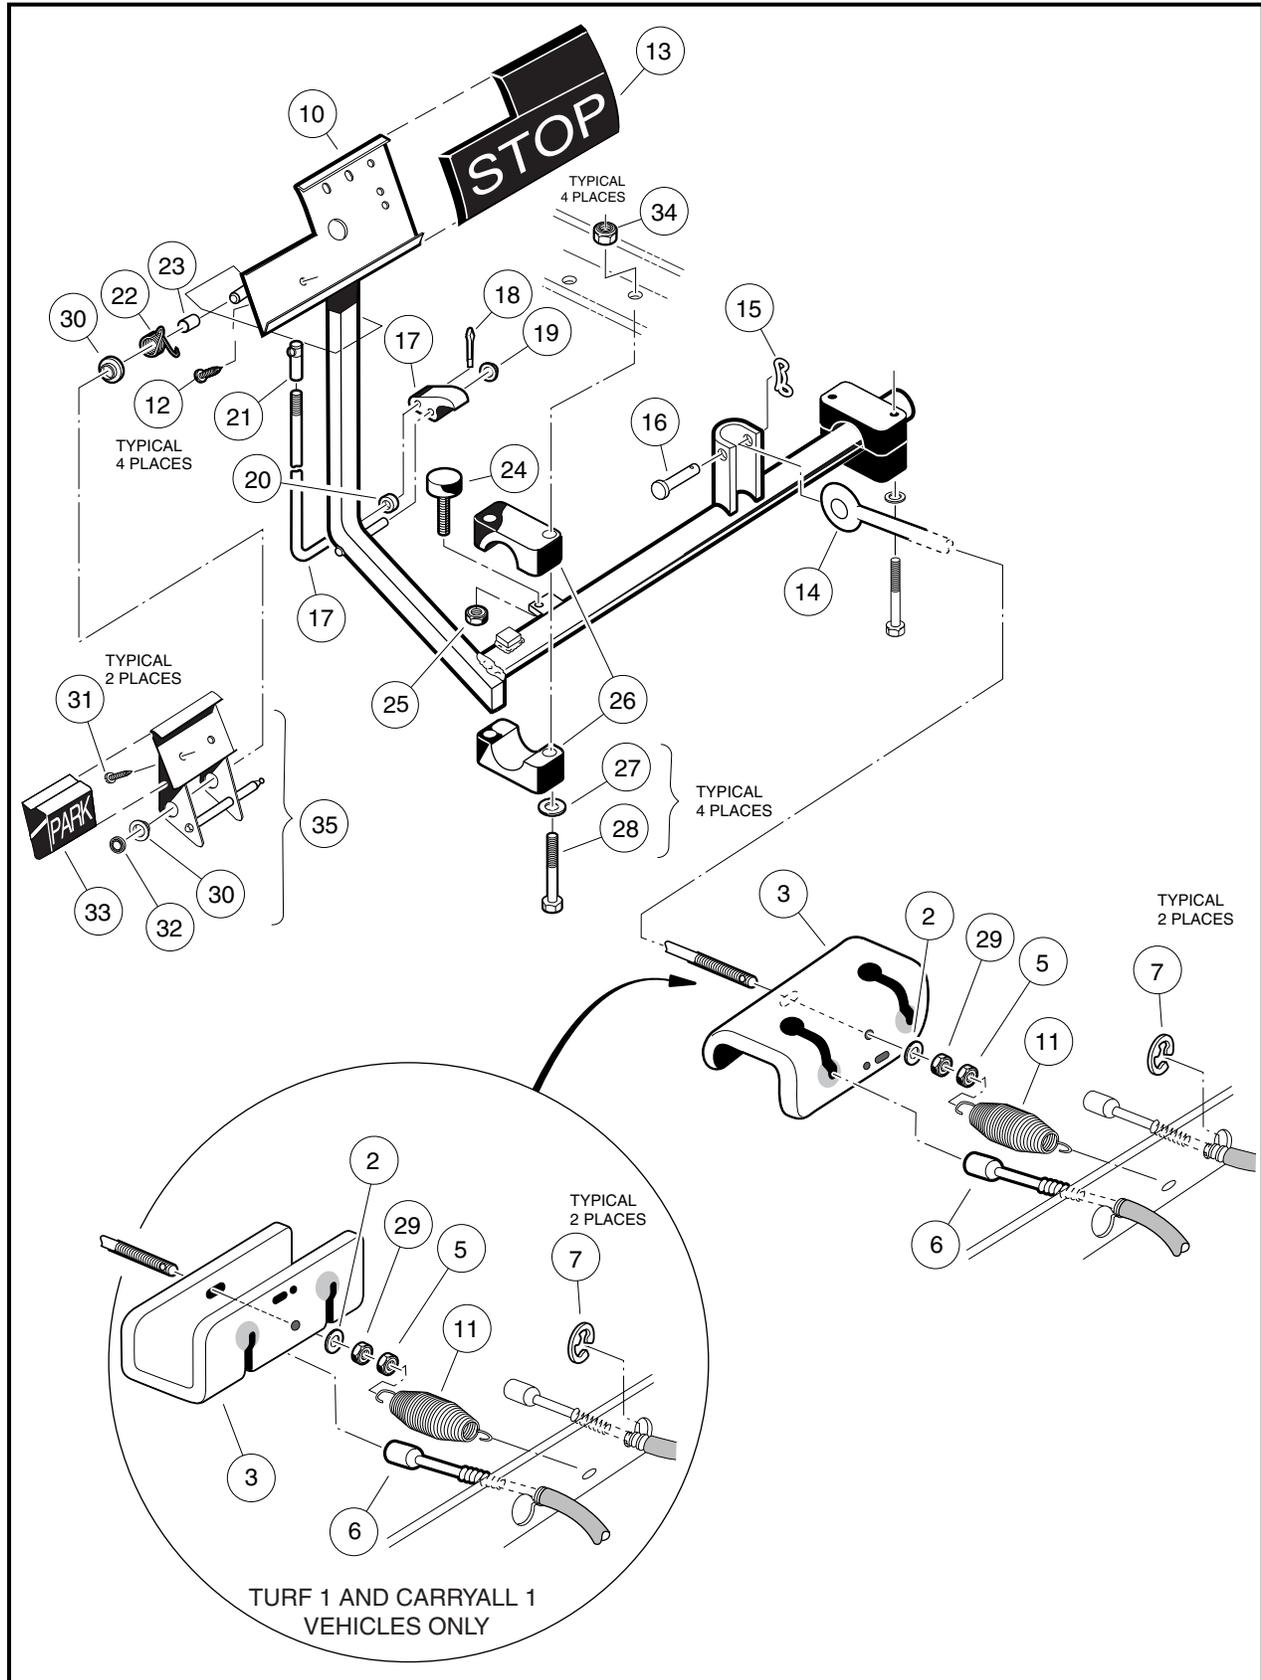
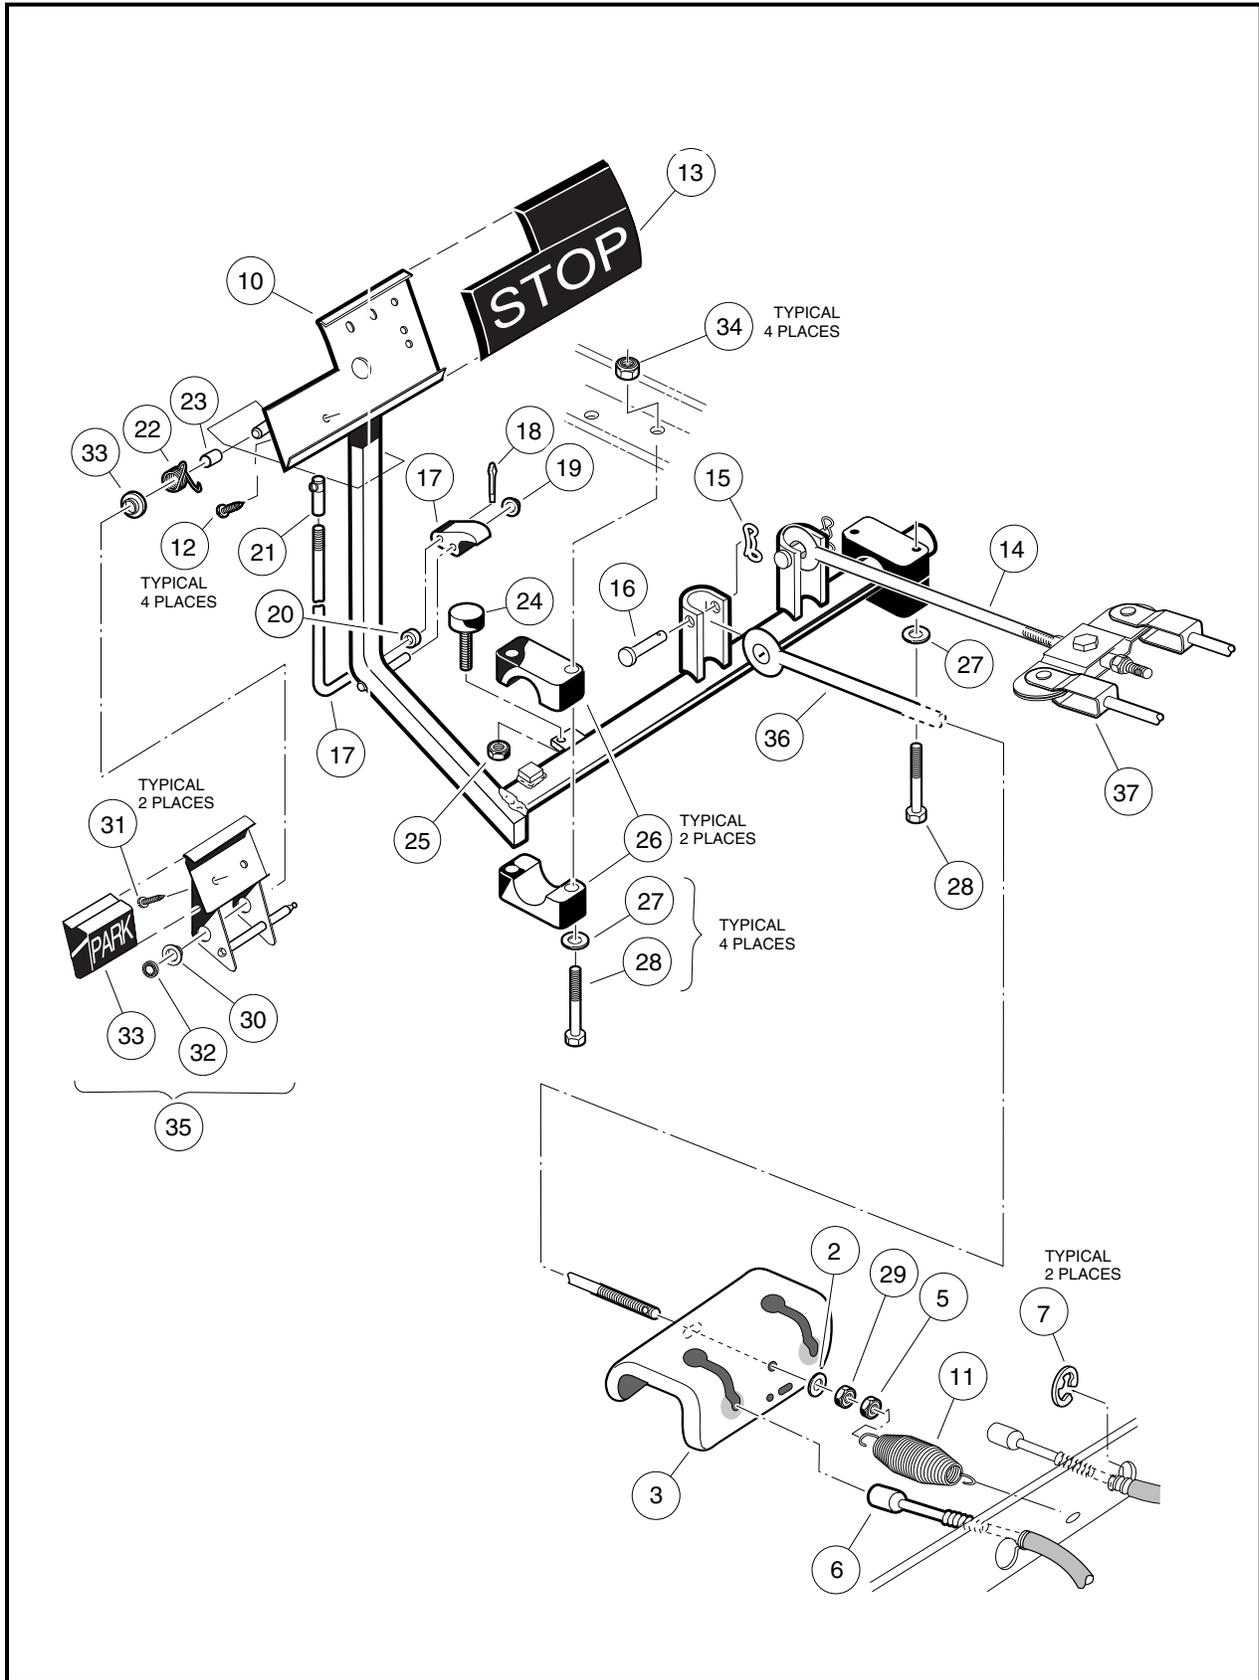
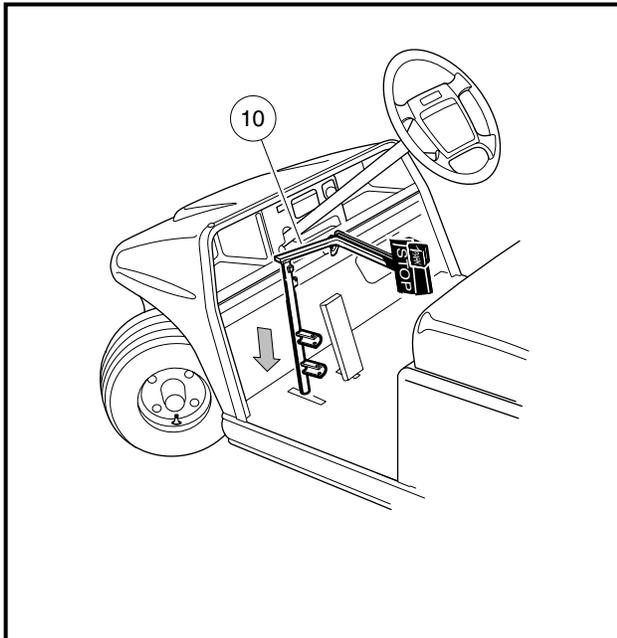

Figure 5-1 Brake and Park Brake Pedal Assembly and Mounting – Two-Wheel Brake Vehicles
Figure 5-2 Brake and Park Brake Pedal Assembly and Mounting – Four-Wheel Brake Vehicles
Figure 5-3 Brake Pedal Weldment Through Floor
- 3.1. Disconnect the equalizer rod(s) (14 and 36) from the pedal shaft by removing the clevis pin(s) (16) and bow-tie pin(s) (15) (**Figure 5-1, Page 5-2 or Figure 5-2, Page 5-3**).
- 3.2. Remove the nuts (34), flat washers (27), bolts (28), and mounting blocks (26). If the mounting blocks (26) show signs of excessive wear or are damaged, they must be replaced with new ones before installing pedal assembly (**Figure 5-1, Page 5-2 or Figure 5-2, Page 5-3**).
- 3.3. Remove the nut (25) and brake stop bumper (24) (**Figure 5-1, Page 5-2 or Figure 5-2, Page 5-3**).
- 3.4. Lift the pedal assembly (10) through the floorboard (**Figure 5-3, Page 5-4**).
1. From the top side of the floorboard, insert the brake pedal assembly (10) (**Figure 5-1, Page 5-2 or Figure 5-2, Page 5-3**) through the opening in the floor as shown (**Figure 5-3, Page 5-4**) and install the brake pedal stop bumper (24) (**Figure 5-1, Page 5-2 or Figure 5-2, Page 5-3**) on the brake pedal assembly, but do not tighten the jam nut (25) at this time.
2. Secure the equalizer rod(s) (14 and 36) to the brake pedal assembly (10) with clevis pin(s) (16) and bow-tie pin(s) (15) as shown (**Figure 5-1, Page 5-2 or Figure 5-2, Page 5-3**). Tighten to 17 in-lb (1.9 N·m). **See following NOTE.**
3. Position and attach brake pedal assembly, mounting blocks (26), and washers (27) to vehicle frame as shown. Tighten the bolts (28) and nuts to 113 in-lb (12.8 N·m) (**Figure 5-1, Page 5-2 or Figure 5-2, Page 5-3**).
- 3.1. To remove the park brake rod and pawl assembly (17 through 20), remove the push nut (19) and disconnect the ball joint sleeve (21) from the park brake pedal (35) (**Figure 5-1, Page 5-2 and Figure 5-2, Page 5-3**). **See following NOTE.**